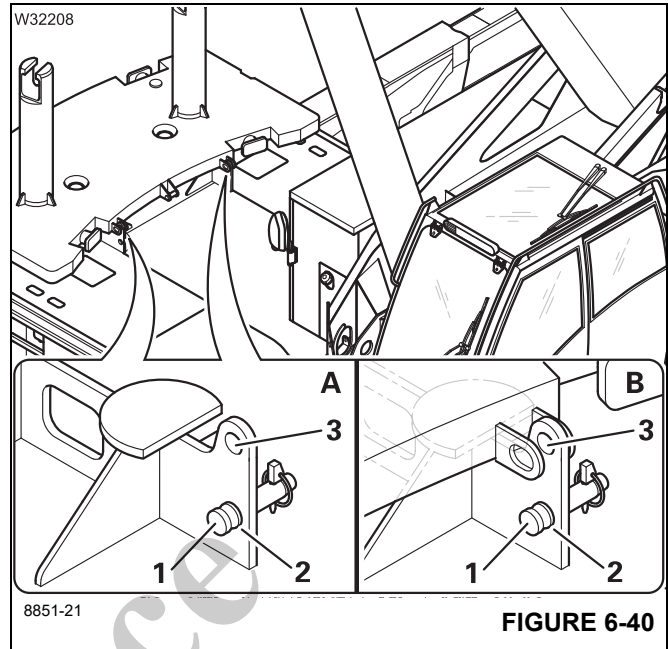

FIGURE 6-40
- (A), (Figure 6-40) – no counterweight is set down or
- (B), (Figure 6-40) – a counterweight is set down
- Remove the pins (1) from the connecting points (3) and plug them into the clamps (2).